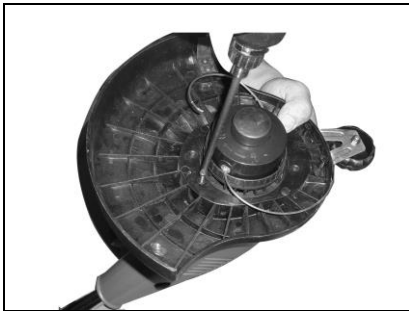

Fig.2A
2. Slide guard over the motor housing (Fig.2A)